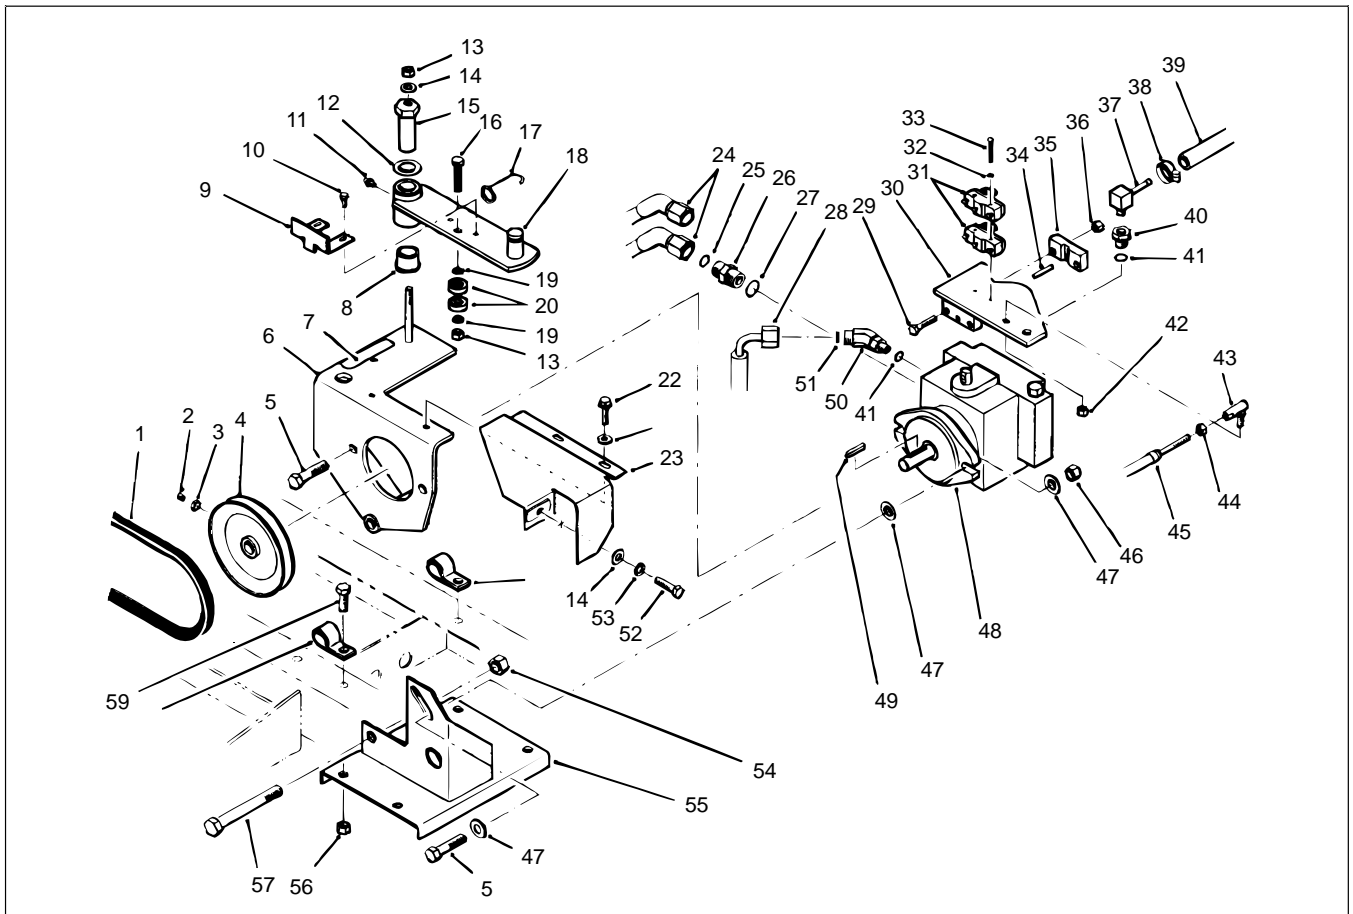

Figure 20
C. Loose three (3) capscrews securing pulley guard bracket (Fig. 20, Item 21) to control panel and pump support.
E. Tighten pivot nut. Tighten three (3) capscrews securing pulley guard bracket.
2. Remove pulley guard bracket (Fig. 20, Item 21).
## Hydraulic Pump Removal and Installation (Fig. 20)